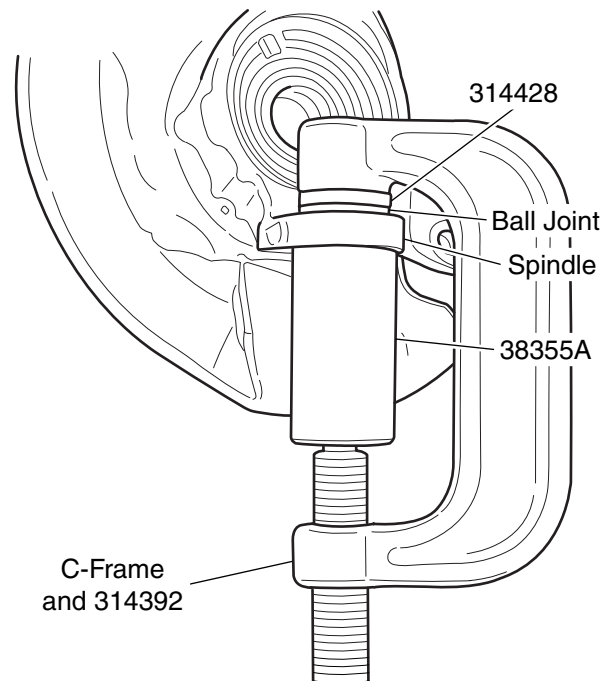

Figure 2. Ball Joint Installation
3. Position 38355A and 314428 on the ball joint as shown in Figure 2.